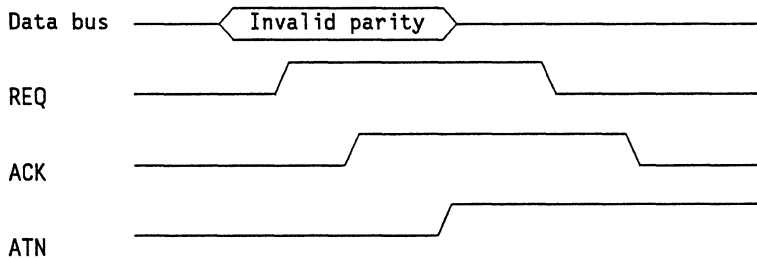

Fig. 4.3.2 ATN signal generation in data transfer
- (1) If Arbitration Enable bit is set to 0 the minimum waiting time is $22 \times (\text{Clock cycle: } T_{CLF})$
- (2) If Arbitration Enable bit is set to 1 the minimum waiting time is $(55 + \text{Set value in TCL}) \times (\text{Clock cycle: } T_{CLF})$
- *3: If the SPC lost the arbitration, the Select command terminates automatically (a command complete interrupt does not occur). In this case, note that the TCL register contents are unpredictable. When issuing the Select command again, be sure to specify the relevant value (see (2)-e, TCL register in Section 4.3.2) again in the TCL register.
(3) Set ATN command
The Set ATN command is valid only when the SPC will act as an INITIATOR role. If this command is issued prior to the Select command, the ATN signal is sent to SCSI at SELECTION phase execution. If the Set ATN command is issued while the SPC is connected with SCSI as an INITIATOR, the ATN signal is sent to SCSI immediately. When the parity checking for the SCSI data bus is enabled and SPC detects a parity error in the data received from SCSI (during execution of the input transfer operation in hardware transfer mode), the ATN signal is sent to SCSI regardless of the Set ATN command. (See Figure 4.3.2) The assertion of ATN signal is retained until the condition described on item (4) Reset ATN command in this section is satisfied. However, the ATN signaling condition held in SPC, by the Set ATN command issued prior to the Select command, is cleared, if: